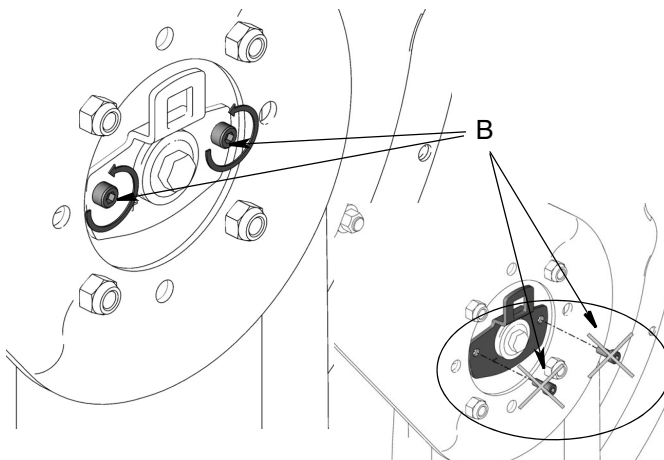

FIG. 11
2. Loosen screws (B) approximately 3 to 5 turns. **Do not remove screws (B) yet** (FIG. 11).